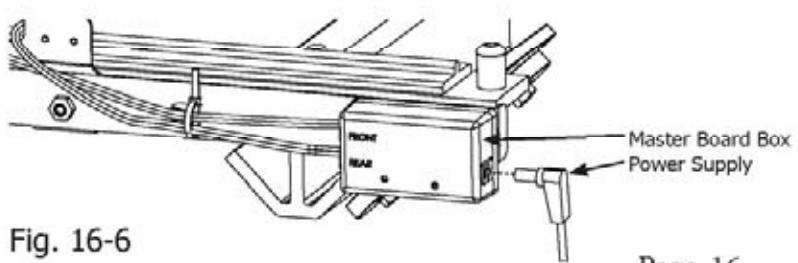

Fig. 16-6
**16-5:** Plug the Power Supply into the Master Board Box. (Fig. 16-6)